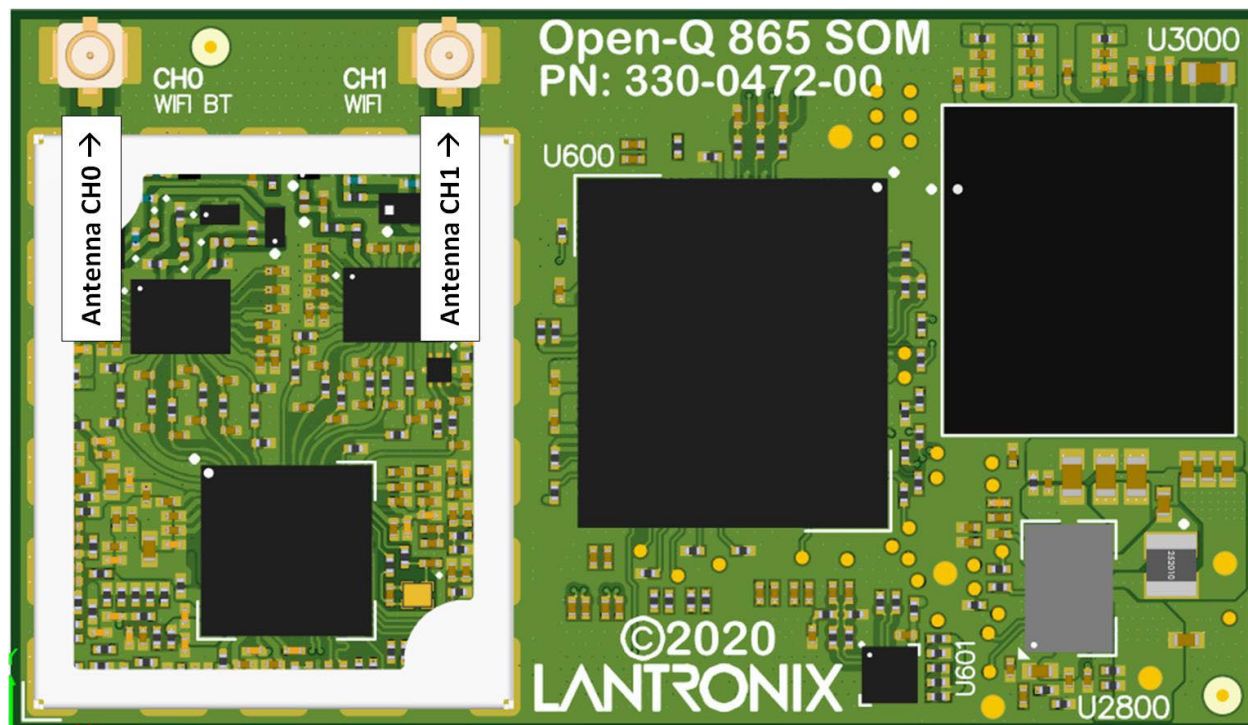

Figure 5: Antenna Connection Locations on SOM
The SOM uses two U.FL coaxial connectors (Hirose U.FL-R-SMT-1 (10)) for the antenna ports, as shown in Figure 5 below.